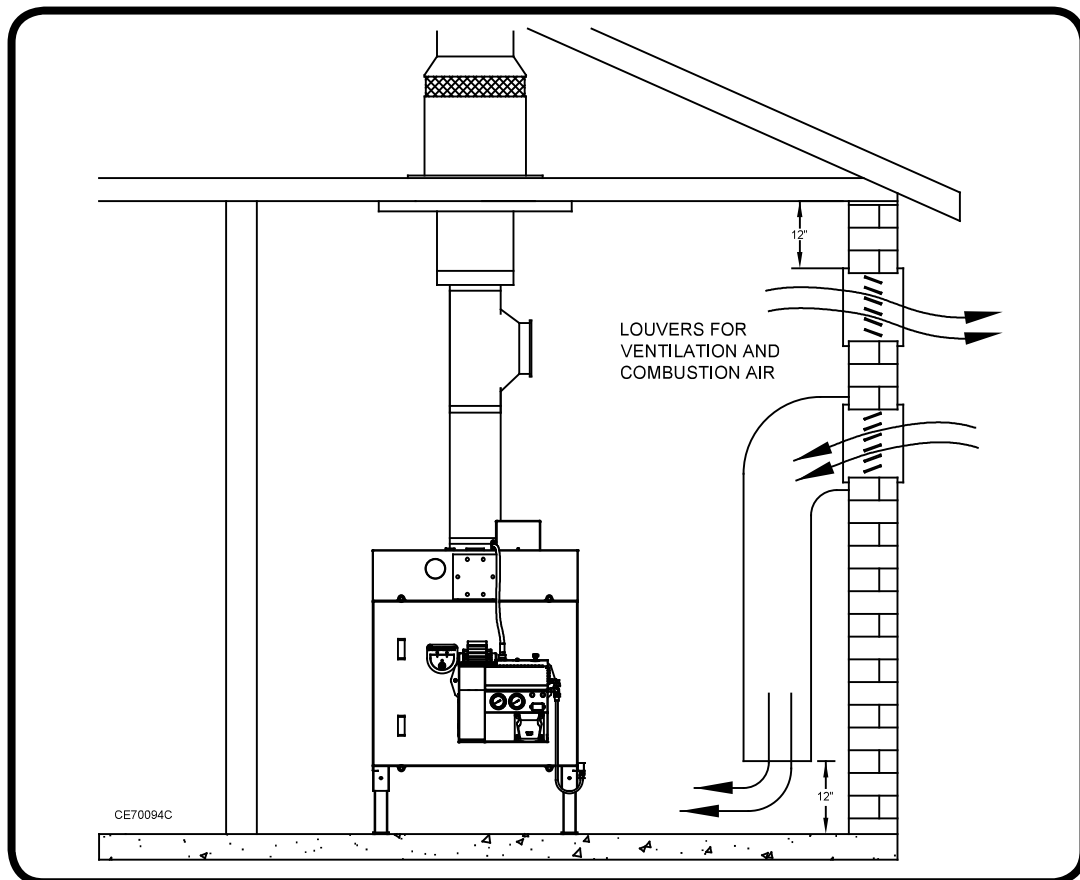

Figure 22: Louvers for Proper Ventilation and Combustion Air
- (1) Confirm all clearances from combustibles as well as clearances for service are followed.
- (2) Make sure the boiler control settings are correct for the application. Refer to page# 23 for Recommended Boiler Control Settings.
- (3) If the boiler is installed in a tight enclosed room, make sure there is enough make-up air for proper ventilation and combustion air (refer to figure 22).
- (4) After the system has run through a complete cycle, check all fittings for leaks.
- (5) Make sure the pressure relief valve and water feed system work properly.
- (6) Leave the Owner's Manual near the boiler for future reference.